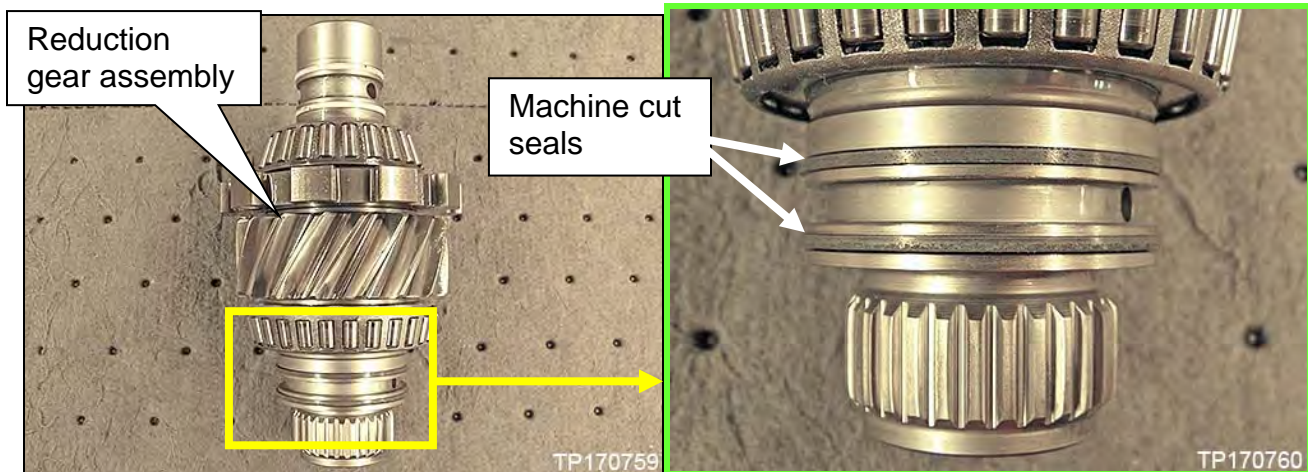

Figure 17R
22. Replace the two machine cut seals (Ring Seals) of the reduction gear assembly, shown in Figure 17R as follows: